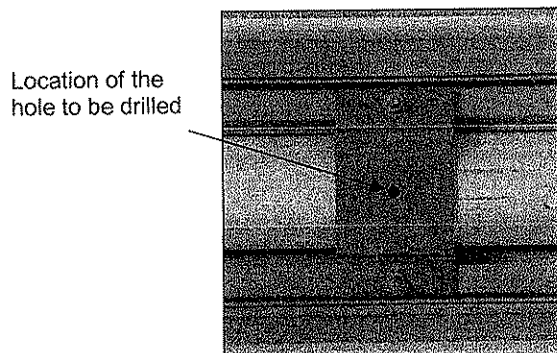

Figure 10: Bracket Detail
7. In order to secure the brackets to the pole, drill a 5/32" diameter hole in the pole through the hole in each bracket (Figure 10) and secure with the supplied sheet metal fastener.